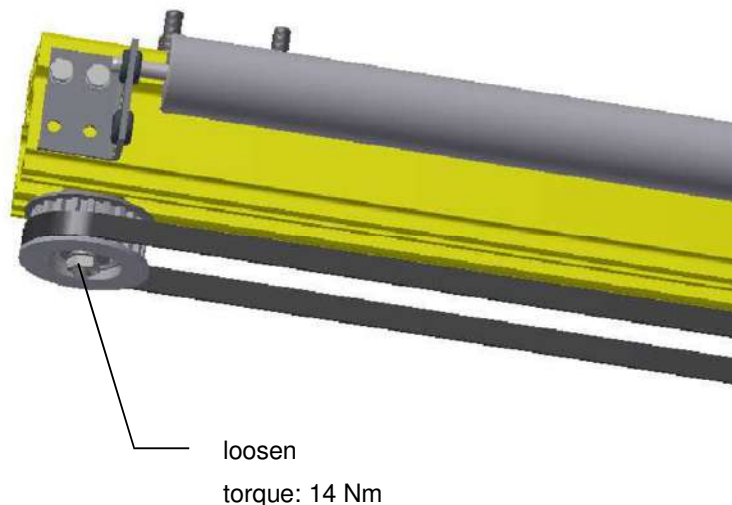

Figure 13: End Stop
- 2) Unscrew the end stop of the guiding profile (Figure 13)